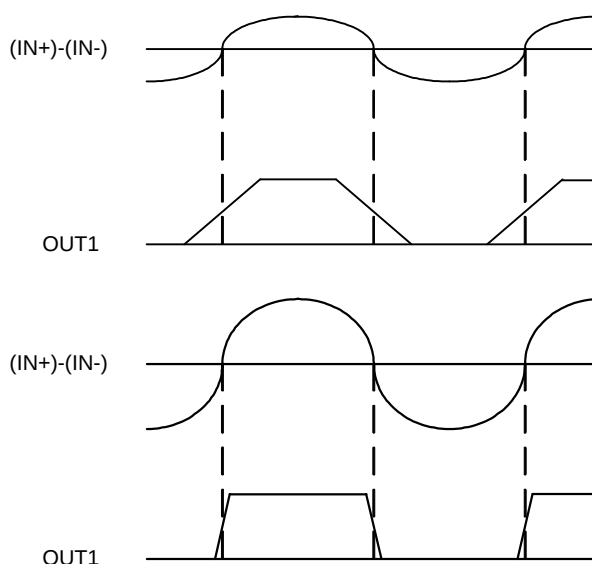

Figure 3. Different of output signal depending on the shape of Hall input signal
1.3V reference is for hall element bias. In case VCC influences the hall signal by board wiring pattern, please connect 0.1μF capacitor between HB and GND. The supply current is just around 130μA at PWM=0 standby mode. This feature will shutdown HB, Amplifier and FG. The output signal of this IC is the amplified hall input signal, therefore, the output signal depends on hall input. When the hall input is small, the output signal becomes gentle. Oppositely, the input signal is large, the output becomes steep (See Figure 3. Different of output signal depending on the shape of Hall input signal). The input/output gain is 48dB (typ.). Therefore, please adjust the amplitude of hall input to meet the adequate output voltage. In the case of long board wiring pattern from hall element to hall signal input terminal, please connect a capacitor between IN+ and IN-.